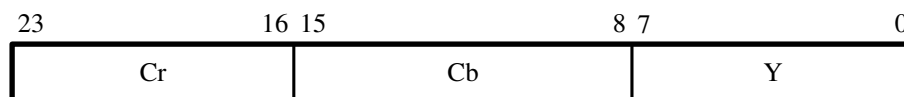

Figure 18. YCrCb 4:4:4 Color Space.
- YCrCb 4:4:4 — This format is the normal YCrCb with all components as shown in Figure 18. This mode is defined as 8 bits per color and three color planes.